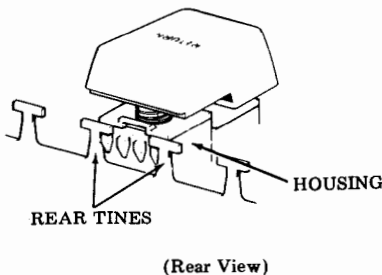

Fig. 8—Rear Tine Disengagement
- (1) Remove keytops BACKSPACE, OVERLINE, GS, US, LINE FEED, SHIFT, and QUOTES that surround the RETURN keytop using 346260 tool.
- (2) Disengage the rear tines from housing with a small screwdriver while pulling the RETURN keytop up and toward the front (Fig. 8).